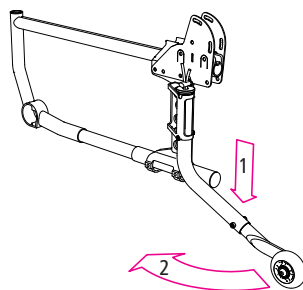

Fig. 21
1. Push the anti-tip wheel downwards with your hand (1, Fig. 21).
2. The anti-tip wheel can now be swivelled inwards (2, Fig. 21).